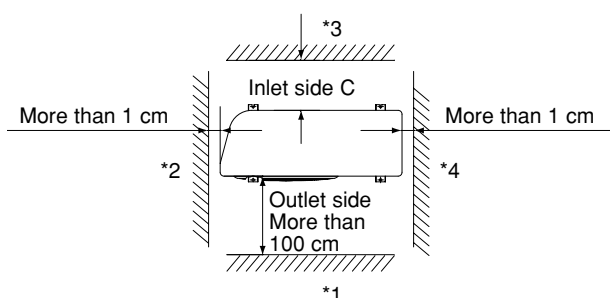
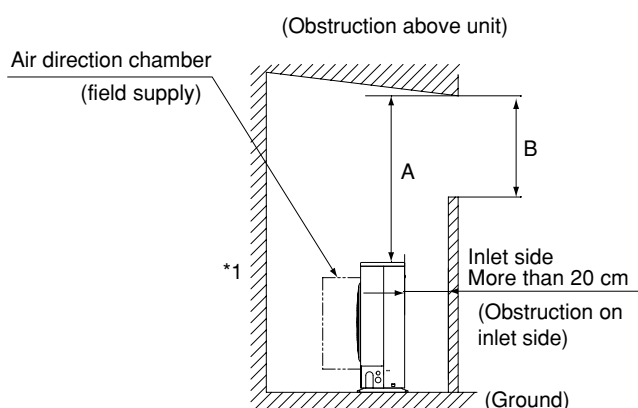

Fig. 1-5
Fig. 1-6
- allow enough room around the unit for air intake/exhaust and possible maintenance. (Fig. 1-5)
- Concerning inlet-side distance “C” (Fig. 1-5)
- If wall *1 is on the outlet side (Fig. 1-5), or if obstructions are present on all 3 sides *2, *3, and *4 (Fig. 1-5), then the minimum distance for “A” and “B” is 2 m (Fig. 1-6). Even if there is no wall on the outlet side, a minimum of 100 cm is required.